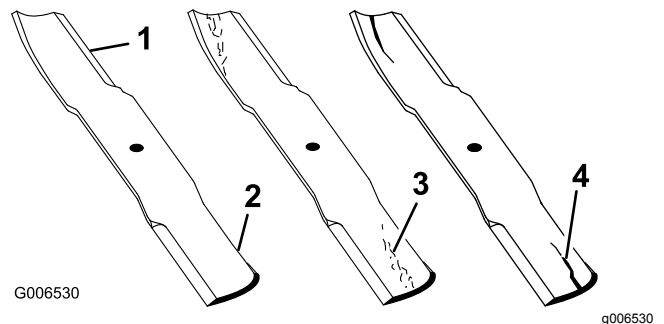

Figure 139
2. Examine the cutting ends of the blade carefully (especially where the flat and curved parts of the blade meet) as shown in Figure 139.
Note: Since sand and abrasive material can wear away the metal that connects the flat and curved parts of the blade, check the blade before using the mower. If you notice wear, replace the blade (Figure 139).